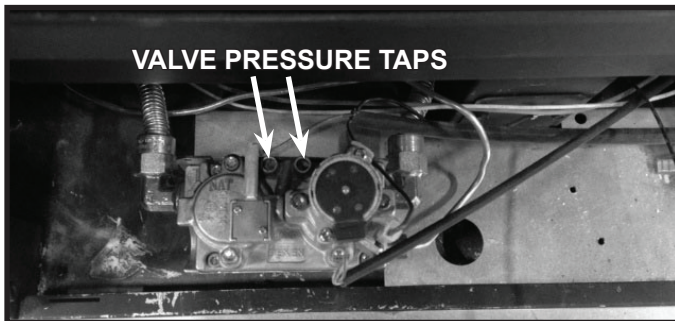

Figure 9.1. Valve Pressure Taps.
- Valve pressure taps are accessible by removing the barrier screen. See Figures 9.1 & 9.2.